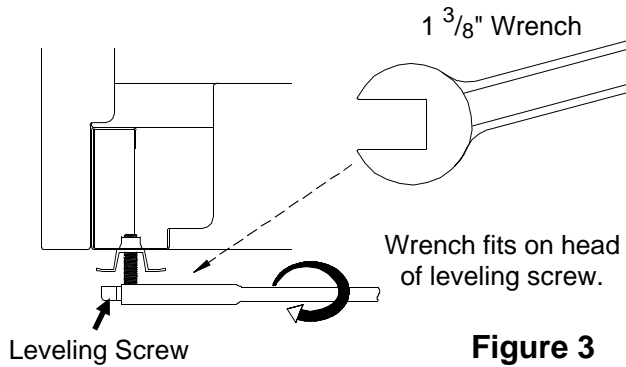

Figure 3
The refrigerator is equipped with leveling feet. Using a bubble level placed on the glass shelf in the fresh food compartment, adjust the leveling feet to obtain proper leveling. To raise the refrigerator, turn screw of leveling feet clockwise. To lower the refrigerator, turn screw of leveling feet counterclockwise. See Figure 3.
Provide an adequate length of gas supply tubing for connecting the refrigerator to the main gas supply tank. Additional tubing is required at the rear of the refrigerator (Figure 3) to allow the refrigerator to be pulled several feet from the wall for cleaning, maintenance, and burner flame inspection.
**To prevent gas leaks and damage to the gas supply tubing, use two wrenches when connecting gas fittings, as illustrated in Figure 3.**